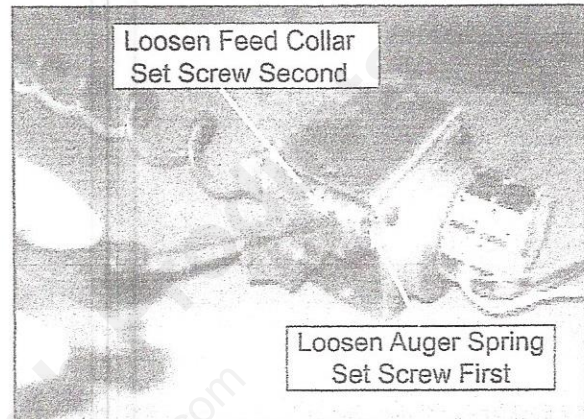

Figure 10
1. Using a Phillips head screw driver loosen the auger spring set screw first and then the feed collar set screw and remove the auger spring. Figure 10.